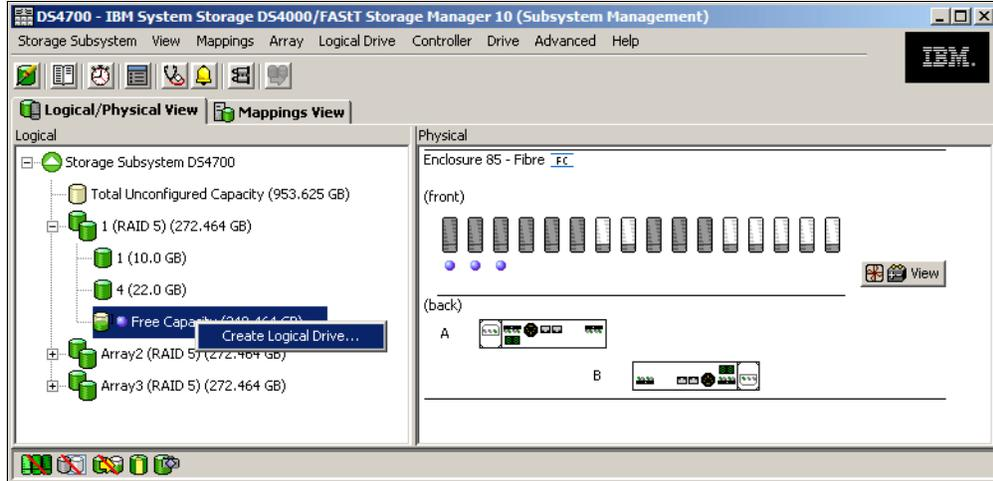

Figure 10-48 Start Create Logical Drive wizard
1. To create the logical drive using Storage Manager, we can use the create logical drive wizard. To start the wizard, right-click **Free Capacity** in the array, then click **Create Logical Drive**, as shown in Figure 10-48.